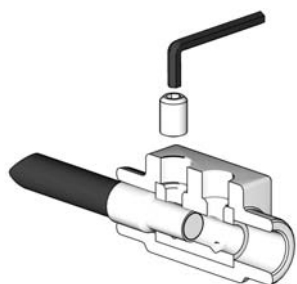
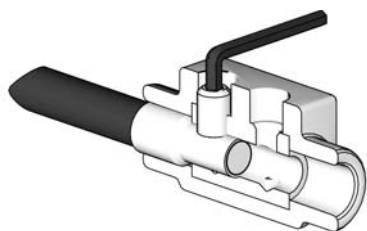

FIG. 8: Insert Wire and Setscrew
FIG. 9: Torque Setscrew
- a. Insert one wire from heated hose into connector. Ensure that ferrule is mating with connector insert. See FIG. 8.
- c. Insert remaining wire from pair into connector; ensure proper insertion depth. Thread setscrew and torque to 60 in-lbs (6.78 N•m); see sub-step B. See FIG. 8 and FIG. 9.